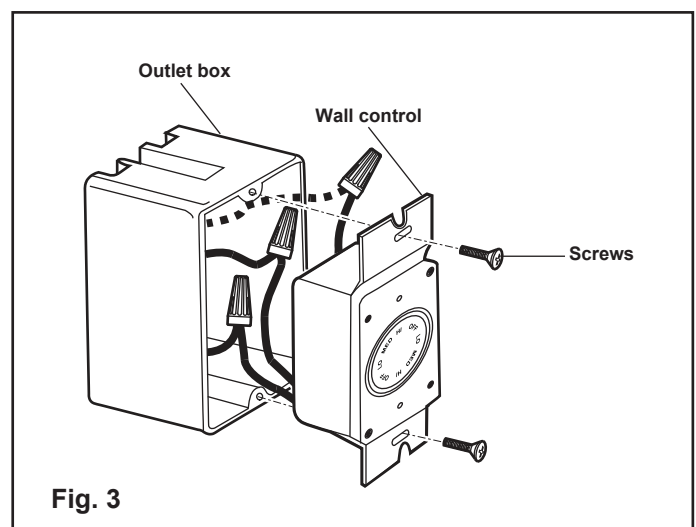

Fig. 3
3. Attach the control to the outlet (wall) box and secure with 2 outlet box screws (Figure 3).